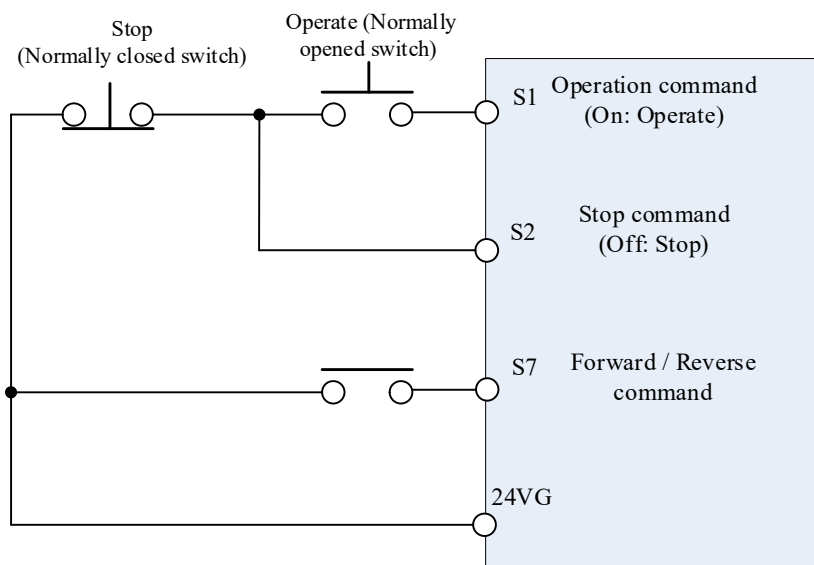

Figure 4.3.2 Example of 3-wire wiring
- Figure 4.3.2 below is an example of 3-wire control. The multi-function input terminal S7 is the forward /reverse command terminal.